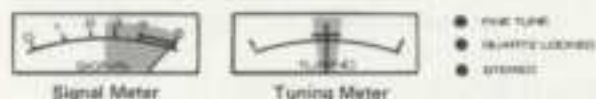

Fig. 10
3. Select the broadcasting station with the tuning knob. See Fig. 10.
- As shown in Fig. 10 adjust so that the SIGNAL meter pointer deflects to the far right, and then adjust so that the TUNING meter pointer is
3. Turn the tuning knob to select a station. The best reception is obtained when the signal meter pointer deflects to the extreme right (see Fig. 10).